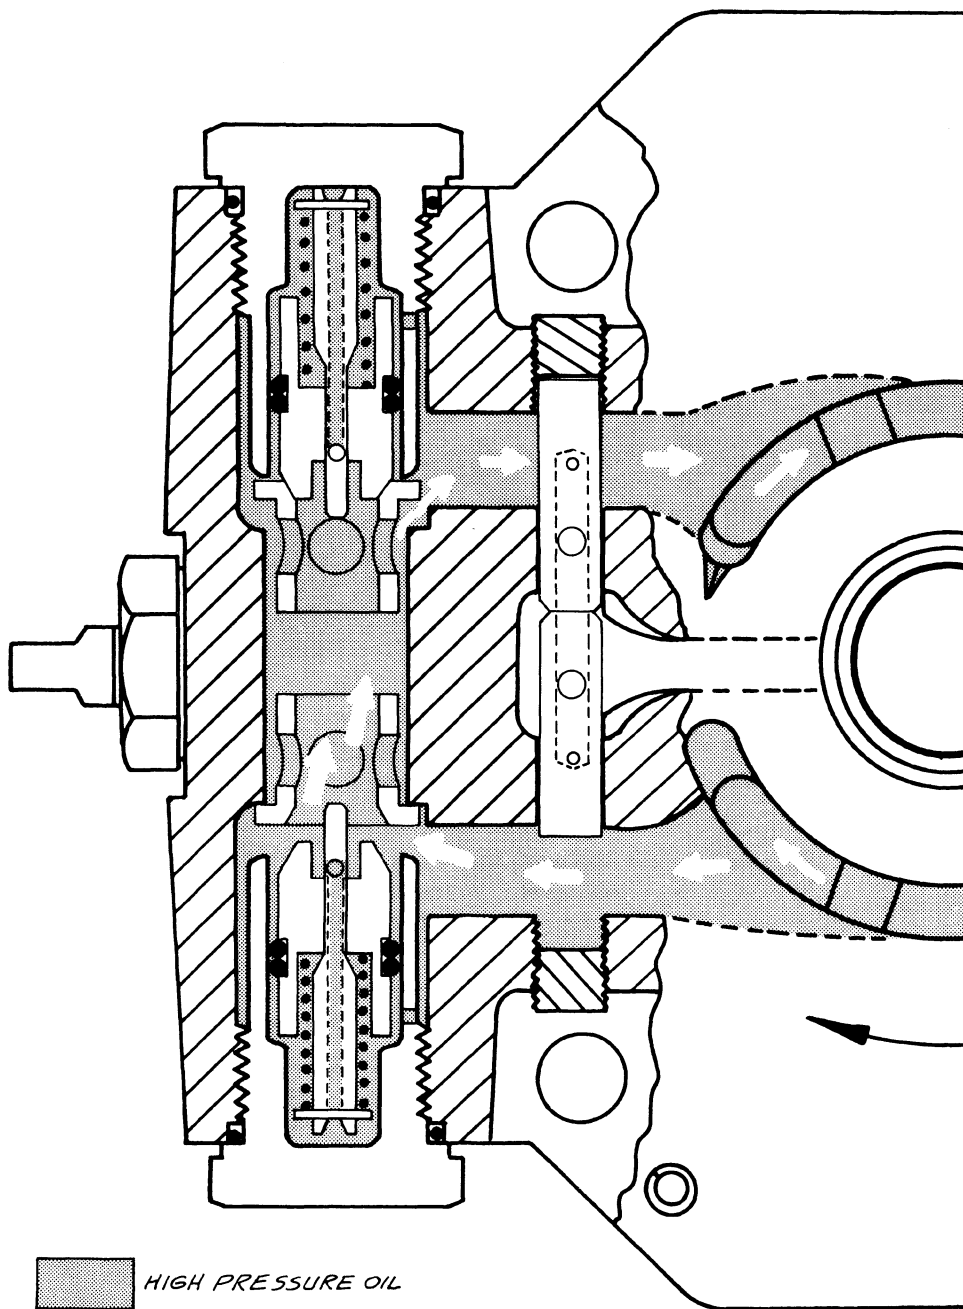

FIGURE 13
- (5) Oil flows through the relief valve passage and lifts the opposite seat and valve, Figure 13.
- (6) High pressure oil flows through both relief valves and enters the low pressure side of the closed loop. Oil will continue to flow from pump to valve block and back to pump, without turning the motor, until the high pressure is reduced. (Reducing load on the drive wheels or moving the pump cam plate to neutral will reduce pressure so the relief valves can close.)